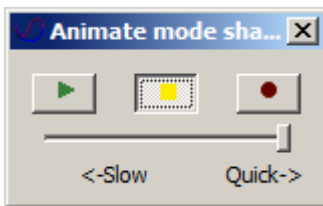

Figure 3.32 **Animate mode shape** dialog box
- ⇒ In the **Animate mode shape** dialog box (see Fig.3.32), click **Play** button .